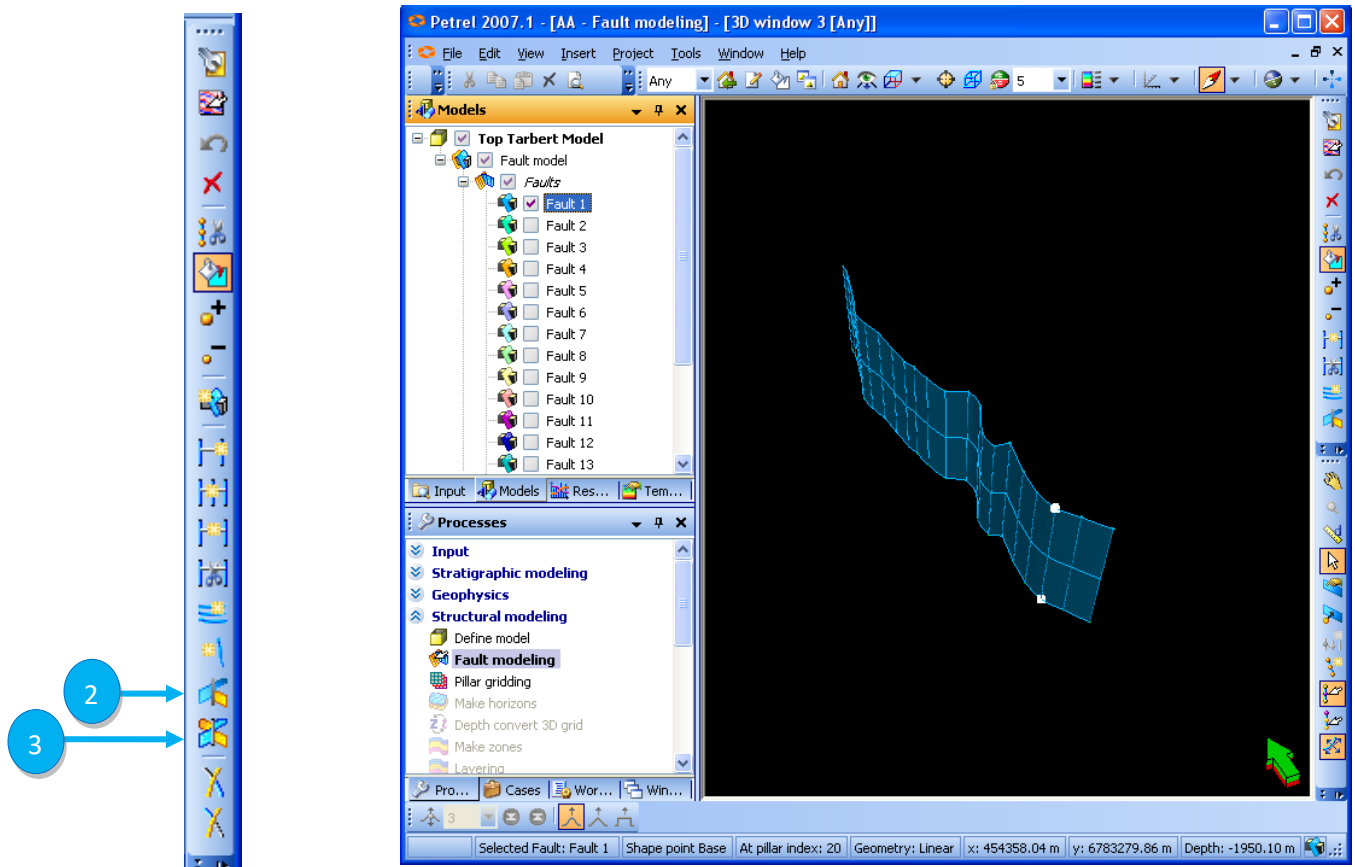

Fig. 11.19: A fault displayed in a 3D window
1. Select the Key Pillar where you want the **crossing** or **branching** fault as shown in Fig.11.19.